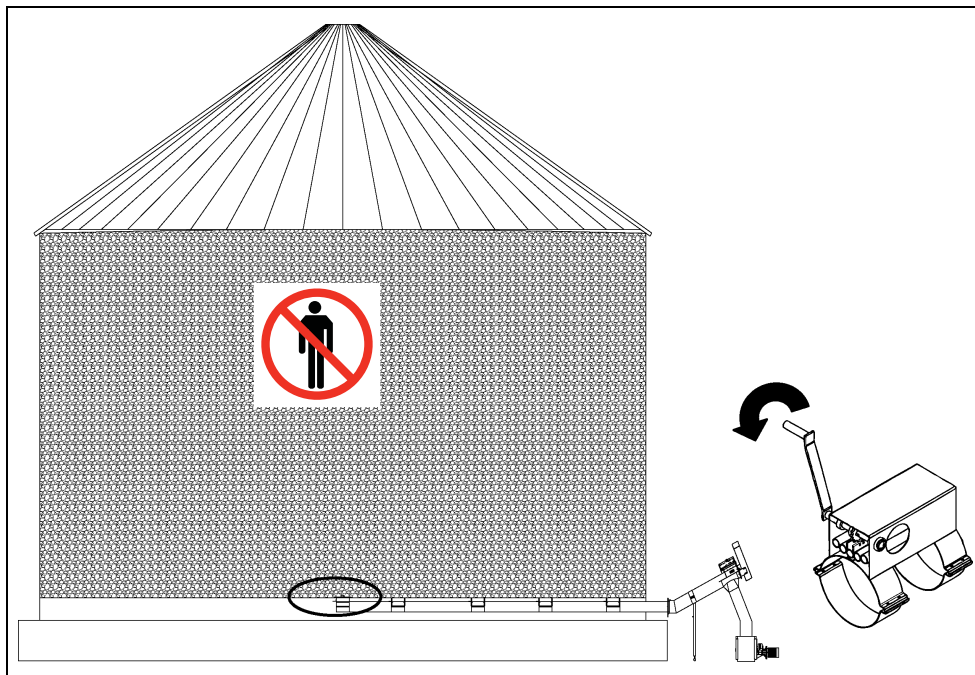

Figure 6B
2. Open centre well only. (See Figure 6B.)